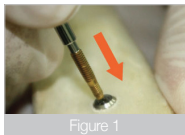

Figure 1
- 3 After selecting the fixture remover screw that is the appropriate size for the size of the screw hole inside the implant that needs to be removed, connect it to the FR screw hex driver and apply a torque of 40~80Ncm to the implant. (Figures 1, 2)